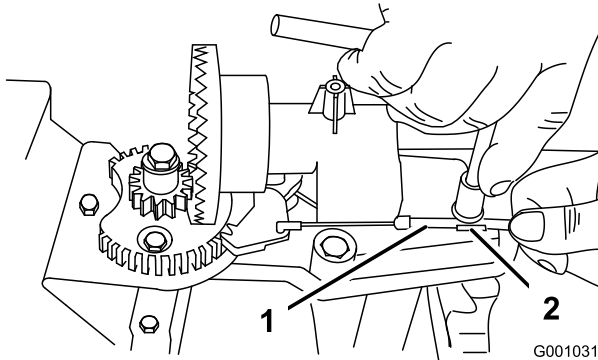
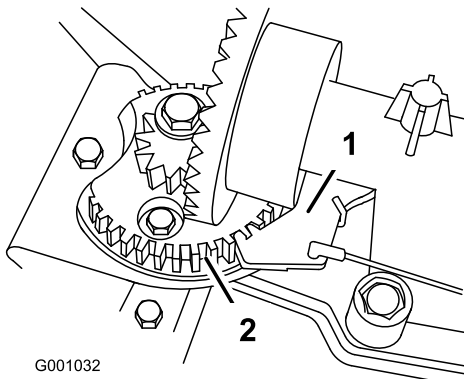

Figure 55
Figure 56
2. Loosen the bolt on the cable clamp (Figure 55).
3. Grasp the cable conduit and move it toward the front of the machine until the discharge-chute latch fully engages the gear teeth (Figure 55 and Figure 56).
Note: The latch is spring loaded and naturally moves into the teeth of the gear (Figure 56).